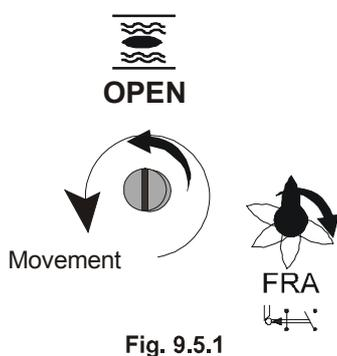
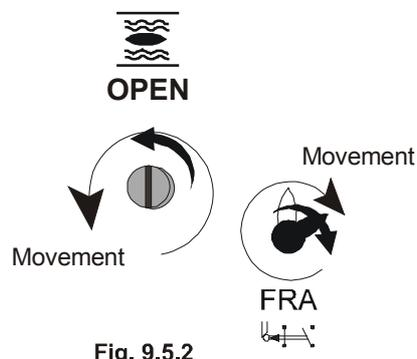

Fig. 9.5.1
Fig. 9.5.2
- Turn A spindle Counter-clockwise (Figure 9.5.1) until B spindle turns clockwise (At this moment FRA microswitch triggers). Just before FRA microswitch was tripped, B red arrow should be pointed to vertical: When B spindle (Red arrow) turns to right the FRA microswitch is tripped (Figure 9.5.2).